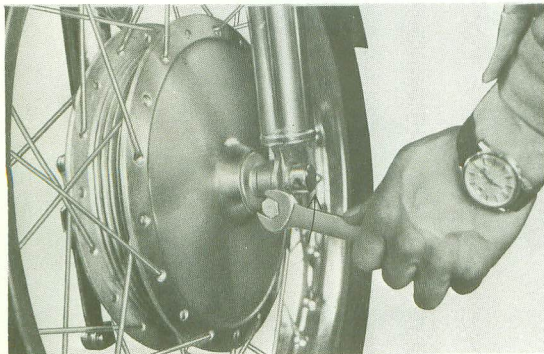

Fig. 5-1-4
- (3) Loosen the front wheel shaft lock bolt. (Fig. 5-1-4)